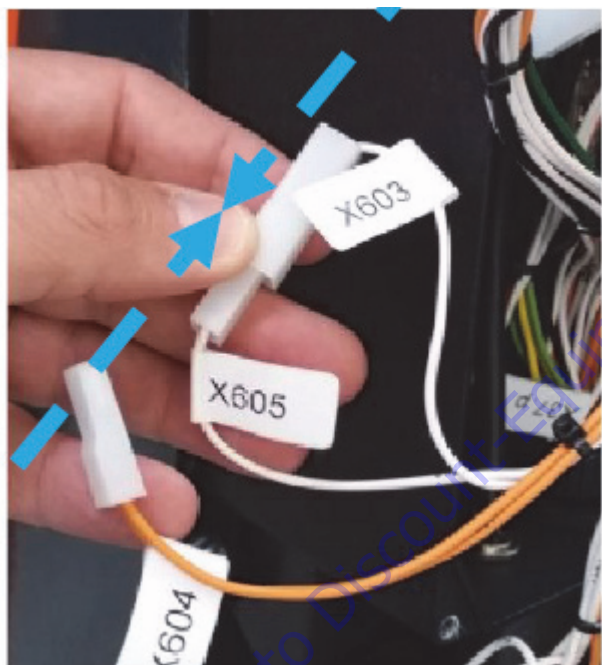

Figure 4-60.
12. Connect connector X603 to connector X605. See Figure 4-60.